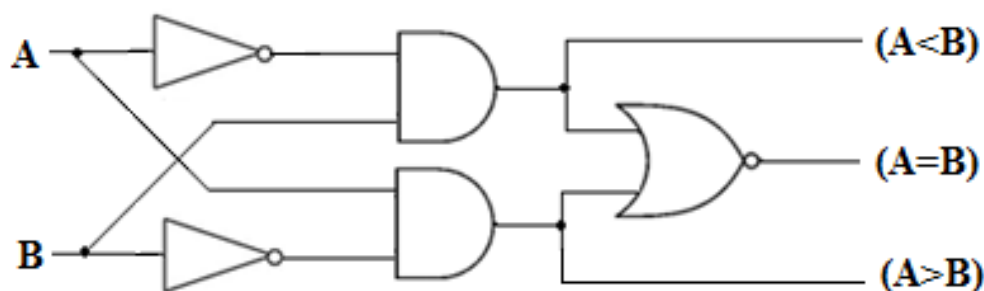

Fig. 1: One-bit Comparator
1. Connections are made as per the Fig. 1.